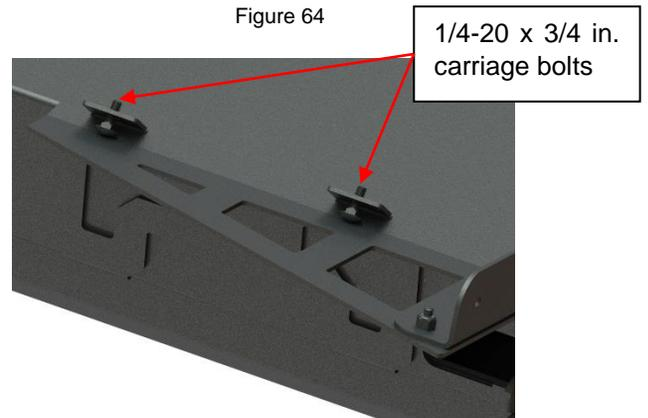

Figure 65
- 5) Place the 1/4-20 x 3/4 in. carriage bolts hanging in their square holes as it will be harder to do later. (Figure 65)